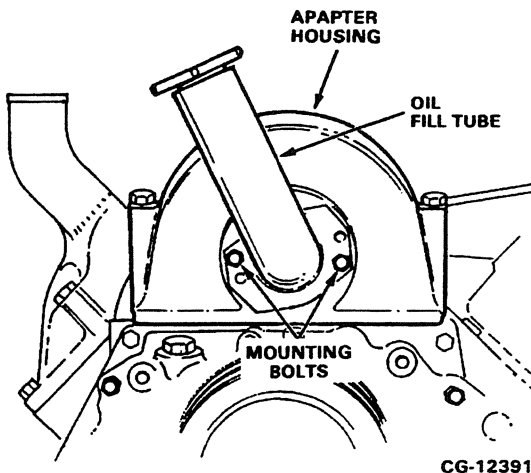

**Figure 9.23. Removing Fuel Inlet (High Pressure) Lines at Nozzle**
1. Loosen all 8 fuel injection line connecting nuts at nozzles using an open end wrench. Refer to **Figure 9.23**.